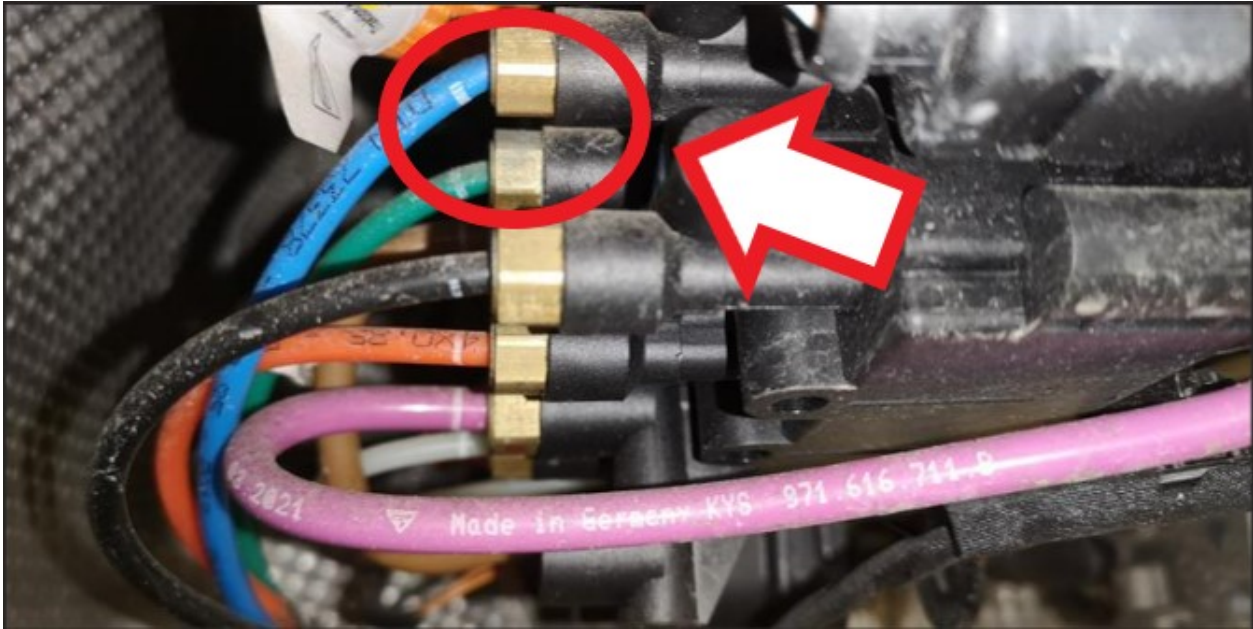

Figure 21
- Referring to Figure 21 - Ensure the air pipes are not kinked or damaged